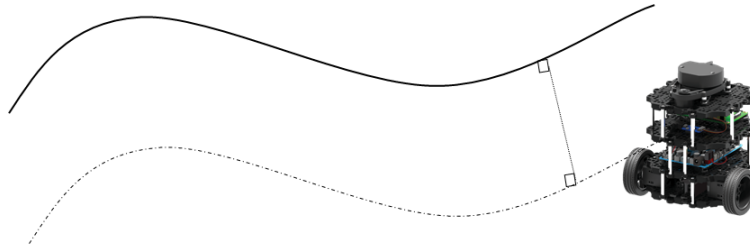
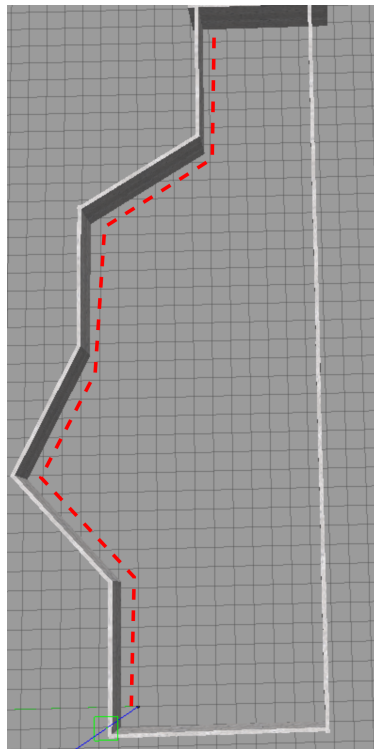

Figure 8: Example of path with constant distant to the uneven wall.
Figure 9: Desired Turtlebot path in the distance to wall task
**Task 6** (Keep distance from surfaces) In this task you should develop your controller for turtlebot to keep a distance from a surface that can be either straight wall or rotated surface. In this case you should use measurements from the lidar sensor which is placed on top of the robot. The schematic of the task is shown in Figure 8. The desired behavior of Turtlebot is shown in Figure 9. In this task you can select how many and which beams you want to use from the lidar. Try your algorithms with different beam configurations and select the one that performs better, providing an overview in your report.